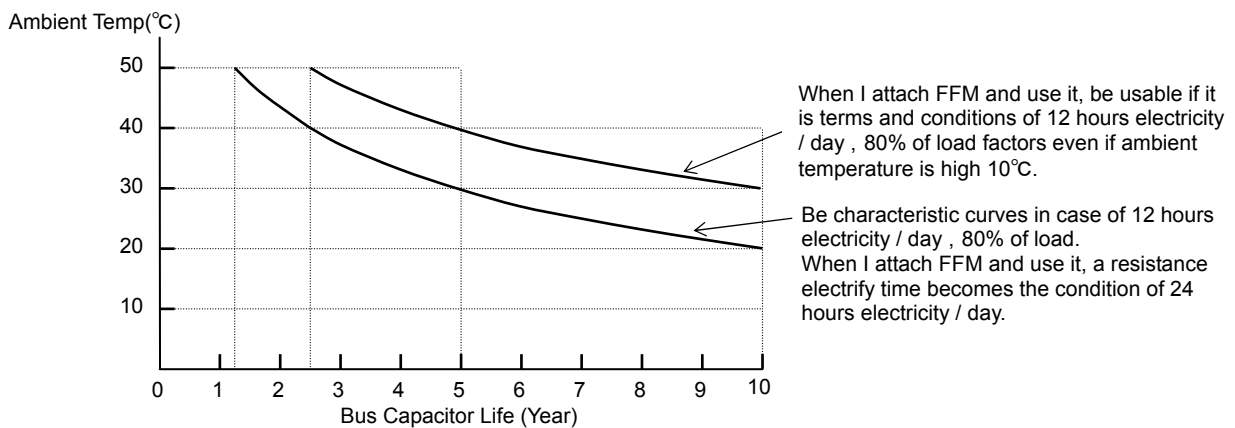

Figure 8. Carve of Bus Capacitor Life
- Bus capacitor life doubles approximately when I attach optional FFM to an applicable model. The detail refers to figure 8